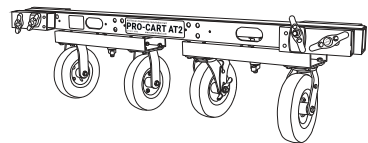

fig.6
**Storage:** For compact storage, fold casters and collapsible uprights in-line with main support rail. (see fig. 6)